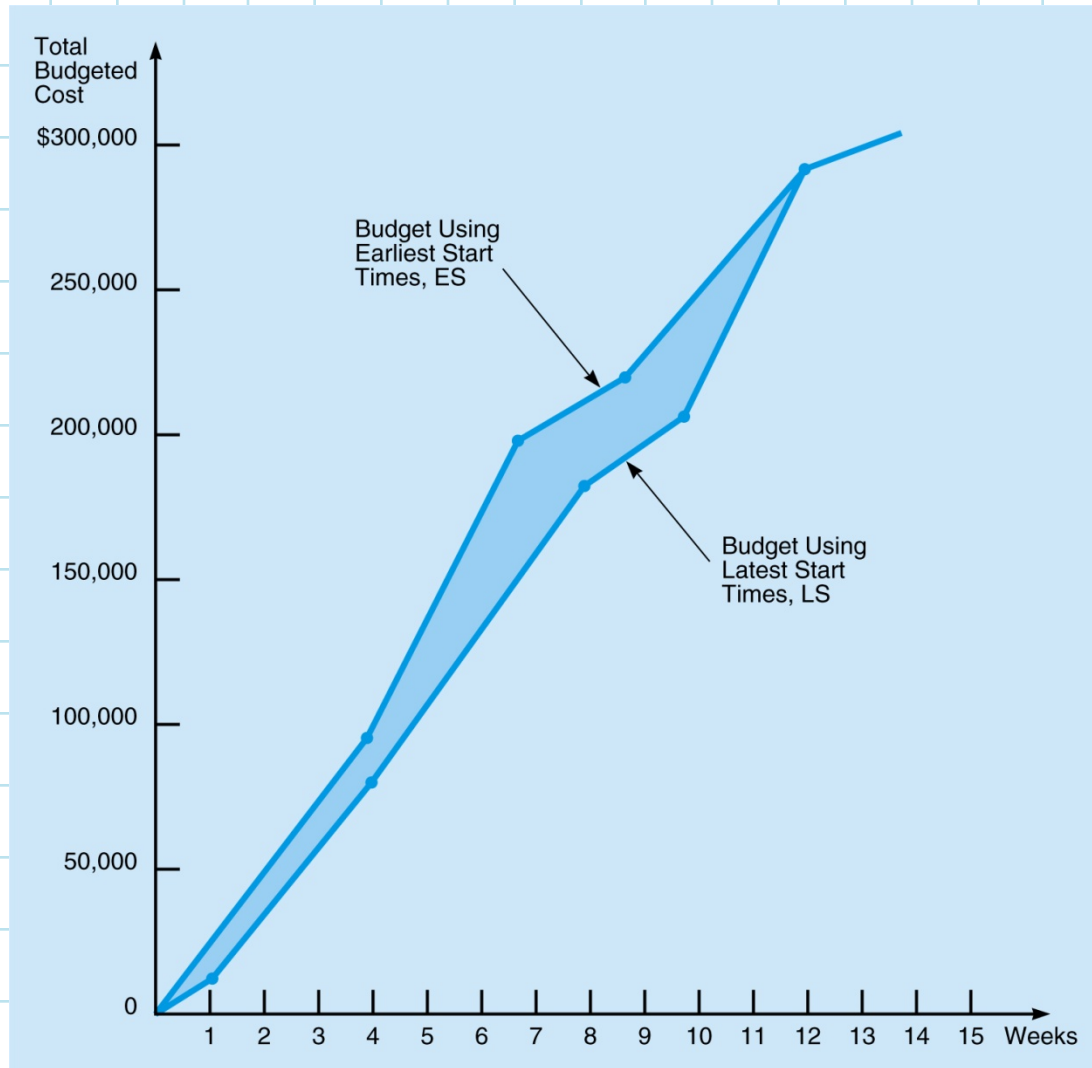

Figure 12.10
- The budget ranges are plotted in Figure 12.10